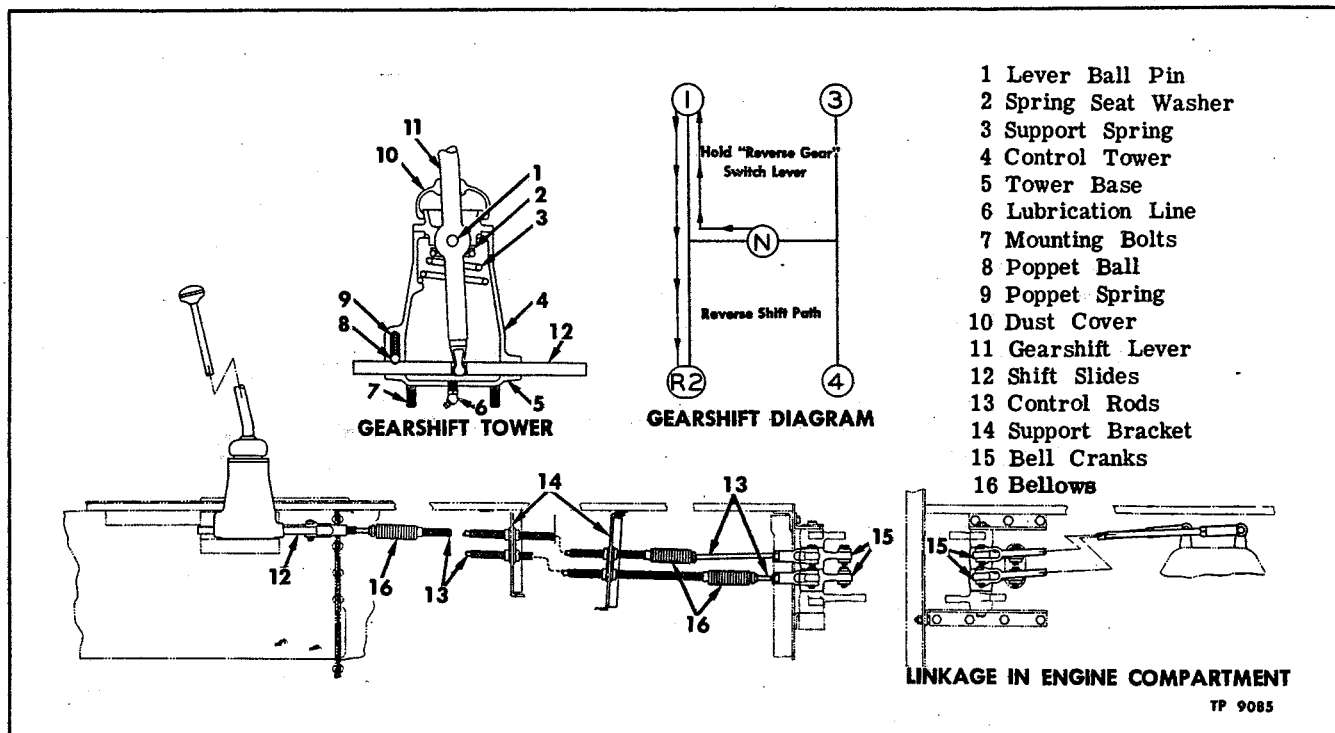
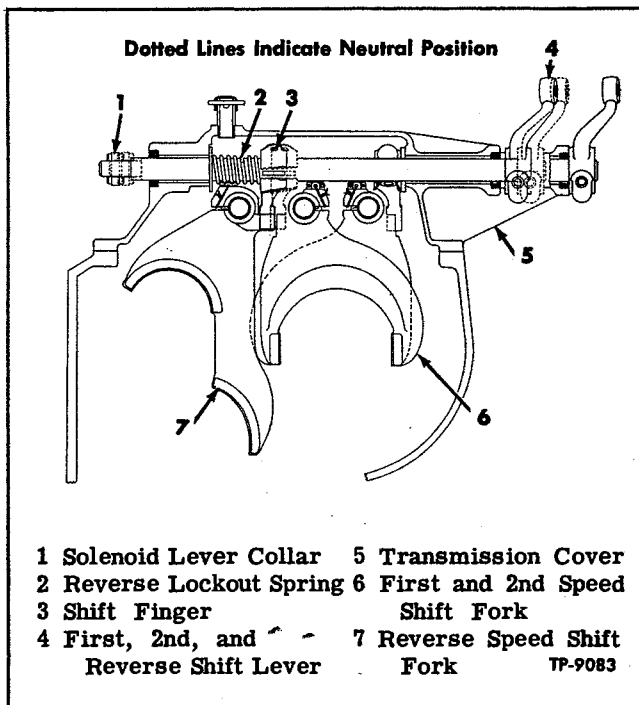

Figure 3—Transmission Controls and Linkage
Figure 5—Position of Parts When Shifting into Reverse
When shift is made for any one of four forward speeds (fig. 3) the movement of shift lever is transmitted to transmission through various rods, levers, and bell cranks.
Transmission control rods from shifting lever to bulkhead are supported as illustrated in figure 3. Rods pass through loom packed with commercial graphite.
the shift finger (19, fig. 7) is in line with notch in reverse speed shift fork, hence operating the "REVERSE GEAR" switch at this time causes reverse solenoid to operate, thereby moving finger into engagement with reverse shift fork (fig. 5).
As gearshift lever is moved through reverse shift path (fig. 3) the reverse idler drive and driven gears are locked together by clutch and at same time countershaft 1st speed gear is disengaged from countershaft to become an idler gear during reverse operation.
Forward speeds are shifted manually by means of shift lever interconnected to transmission shift tower by control rods and levers (fig. 3).
This section describes the path by which power flows through the transmission assembly as vehicle is operated. Shifting diagram shown in figure 3 may be referred to for gearshift lever position for each transmission speed.
A solenoid (21, fig. 7), controlled by "Reverse Gear Switch" on panel in front of driver, is used in conjunction with gearshift lever to shift transmission for reverse operation. Arrows on gearshift diagram in figure 3 indicate the path through which the lever must be moved to shift transmission gears for reverse operation. Reverse gear switch is operated when gearshift lever is at first speed position and must be held while lever is moved to "R2" position. Figure 5 illustrates movement of shift shaft as solenoid is energized.
Solenoid lever engages collar (1) on shift shaft and as shaft and shift finger (3) move to the position indicated by solid lines (fig. 5), finger (3) is disengaged from fork (6) and enters notch in reverse shift fork (7). Shifting gearshift lever to "R2" position moves reverse fork forward disengaging sliding clutch on countershaft and engaging sliding clutch on reverse idler gears. Reverse
4. Manually shift reverse solenoid lever into reverse speed position (fig. 5).
5. Adjust lock nuts on solenoid link screw so that solenoid points just break, with the 1st, 2nd and reverse speed shift shaft moved fully into reverse speed position (fig. 5).
Gearshift lever, mounted in control tower below floor at right of driver can be removed and disassembled as described in these instructions. Refer to figure 3 for layout of control rods.
1. Assemble gearshift lever tower components referring to sectional view in figure 3 for construction. Mounting bolts are installed from upper side of tower and are threaded into base.